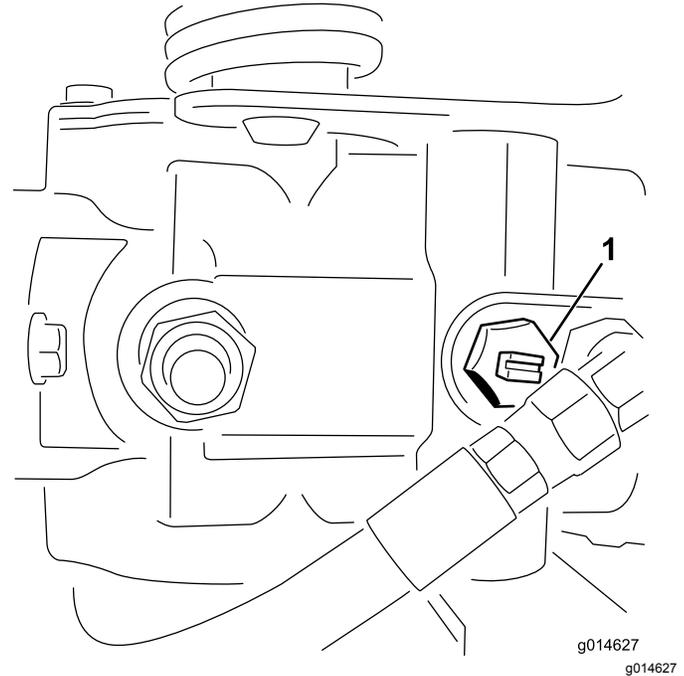

Figure 28
1. Locate the bypass valve on the pump and rotate it so that the slot is vertical (Figure 28).
2. Before starting the engine, close the bypass valve by rotating it so that the slot is horizontal (Figure 28).